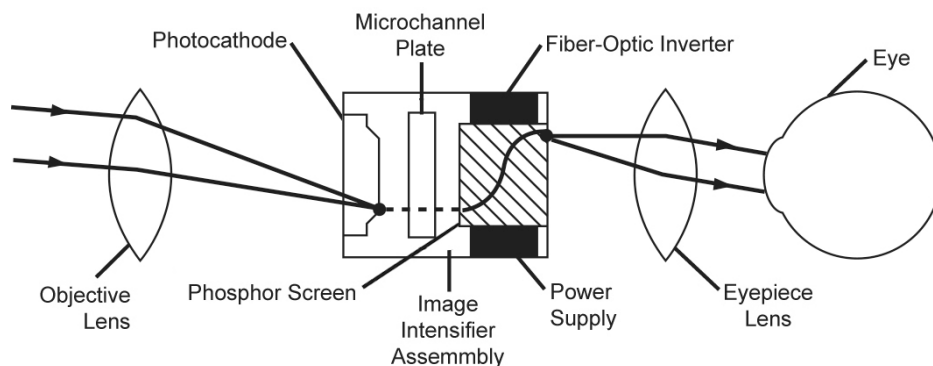

Figure 1-6. Optical Function Diagram
The Binocular is an electro-optical system consisting of two monoculars with identical optical terrains and functions (Figure 1-6). Each monocular has an objective lens, an image intensifier assembly and an eyepiece lens. The objective lens collects the ambient light reflected from the scene by the moon, stars, or night sky glow, inverts the image and then focuses the image on the image intensifier. Inside the image intensifier, a photocathode converts the light into electrons; a micro channel plate amplifies the electron's image resulting in the electron striking a phosphor screen. The phosphor screen creates a visible image, which in turn is re-inverted by fiber optics and transmits to the eyepiece, where the operator can see the intensified image in its proper 1:1 perspective (unity magnification).
**C. Image Intensifier Power Supply Function: (Non-Autogated)** The power supply inside the image intensifier assembly (refer to figure 1-6) converts the 3.0 volts from the power pack to the voltages required by the photocathode. The power supply also provides automatic brightness control (ABC) and bright source protection (BSP). Under high light conditions, the ABC automatically reduces the voltages to the Micro-channel Plate to keep the image intensifier’s brightness within a set limit. The effect of this function may be seen when rapidly changing from low-light to high-light conditions; the image gets brighter and then after a momentary delay, suddenly dims slightly to a constant level. The BSP function reduces the
voltage to the photocathode when the goggles are exposed to bright light sources. The BSP feature protects the image intensifier from damage and enhances its life; however, it also has the effect to lowering resolution. Therefore, under bright conditions, when you would not normally use the goggles, the image produced is not sharp. **(Autogated)** The power supply inside the image intensifier assembly (refer to figure 1-6) converts the 3.0 volts from the power pack to the voltages required by the photocathode. The power supply also provides automatic brightness control (ABC) and a Autogated feature that replaces the bright source protection (BSP). Under high light conditions, the ABC automatically reduces the voltages to the MCP to keep the image intensifier's brightness within a set limit. The effect of this function may be seen when rapidly changing from low-light to high-light conditions; the image gets brighter and then after a momentary delay, suddenly dims slightly to a constant level. The Autogated function turns off and on the voltage to the photocathode when the goggles are exposed to bright light sources. The Autogated feature protects the image intensifier from damage and enhances its life and maintains a better resolution than with BSP. Therefore, under bright conditions, the image produced is will be sharper than a Non-Autogated power supply.